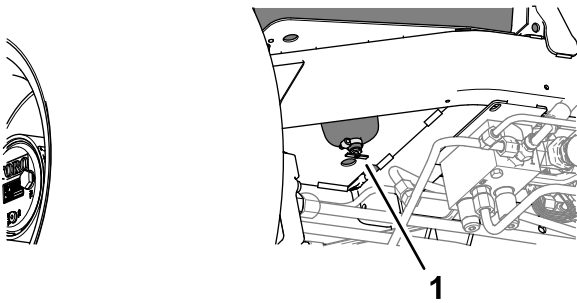

Figure 81
2. Align a drain container under the drain valve at the bottom of the fuel tank (Figure 81).